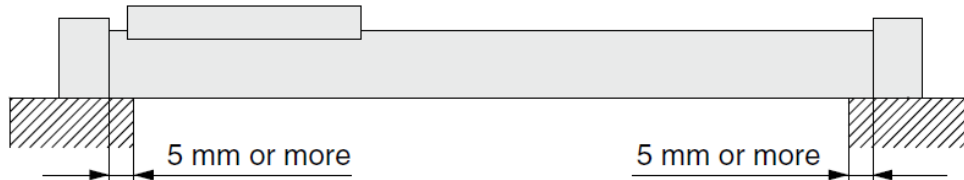

Fig. 2
- At least 5 mm of both ends of the cylinder tube have to contact with the attachment point. (See Fig. 2)